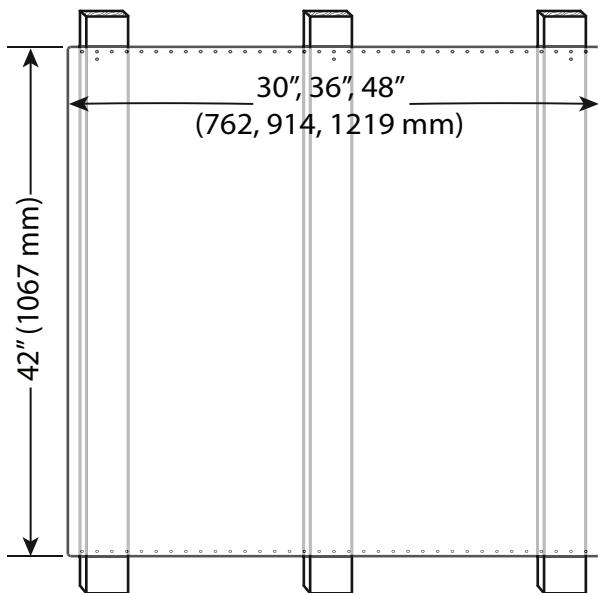

Figure 10: Backsplash Installation
3. Per each wall stud, use (2) 1" (25.4 mm) Phillips head screws to secure both the top and bottom of the Backsplash (see *Figure 10*). Space screws evenly across top and bottom of Backsplash.